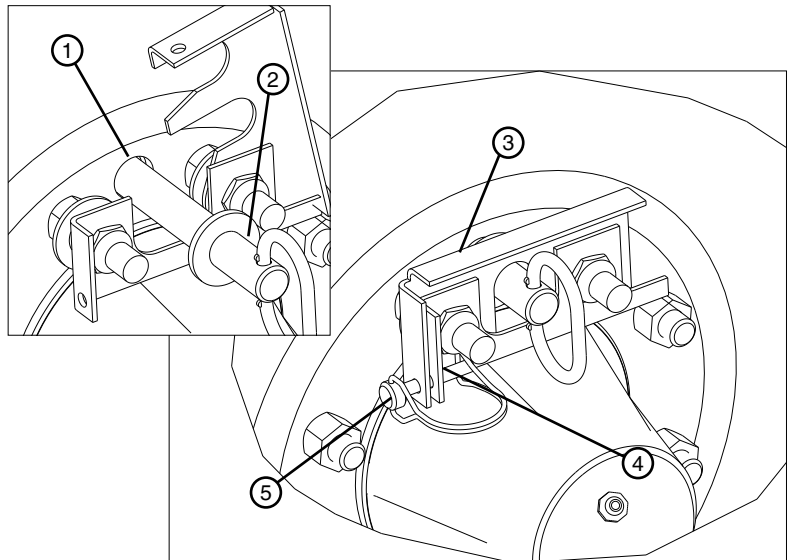

Figure 29-2 1. Hub Torque Pin Receiver 4. Retainer Clip
- Rotate tire until hole in the hub torque pin receiver is aligned with hole in the axle torque arm. Install torque pin and close retainer plate. Secure retainer plate to retainer clip with lynch pin. See figure 29-2.